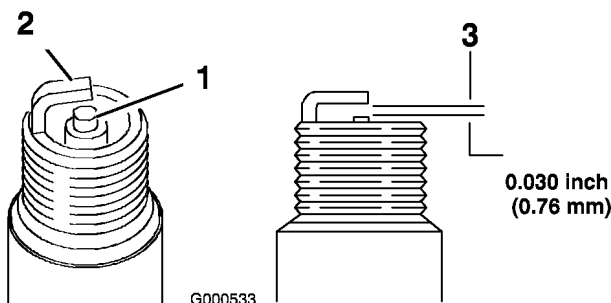

Figure 29
1. Look at the center of the spark plug (Figure 29). If you see light brown or gray on the insulator, the engine is operating properly. A black coating on the insulator usually means the air cleaner is dirty.
2. Check the gap between the center and side electrodes (Figure 29). Bend the side electrode (Figure 29) if the gap is not correct.